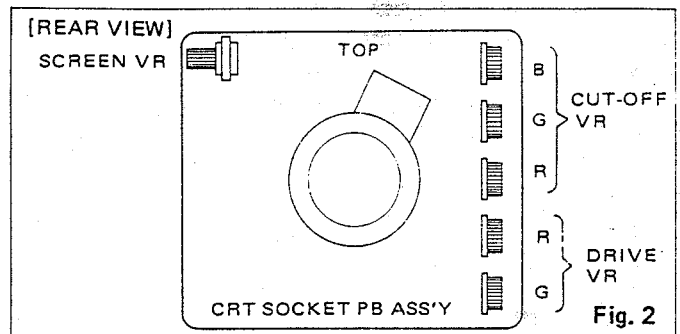

Fig. 2
4. Turn the green cut-off control to maximum and the red and blue cut-off controls to minimum. Then adjust the screen control so that the green band can be seen best. (Fig. 2, 4)
2. Set the red and green drive controls for their mechanical center (Fig. 2).